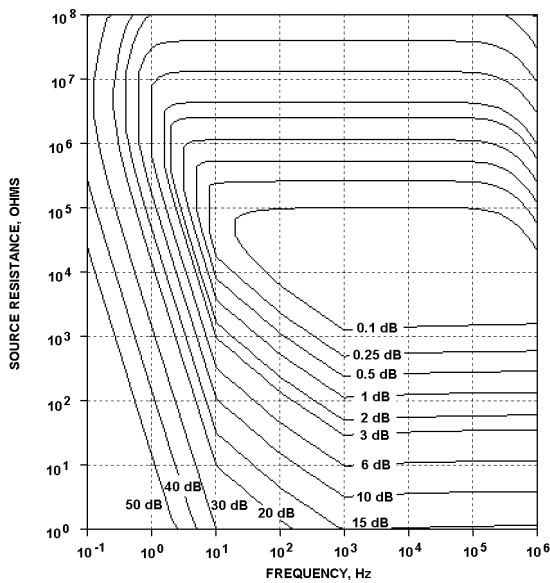

Figure 3, Typical Noise Figure Contours for **SIGNAL RECOVERY** Model 5184 Preamplifier
A typical set of such noise figure contours is shown in figure 3. As can be seen, this noise figure specification completely describes the noise performance of the amplifier for **every** source resistance and frequency combination over which it was designed to operate.
If a particular amplifier is already available, it may be possible to design the experiment so that the operating frequency appears at the lowest noise figure point on the plot. Assume, for example, that the **SIGNAL RECOVERY** model 5184 preamplifier were available, the detector had a source resistance of 10 T and there was a relatively wide latitude on operating frequency. From the model 5184 contours shown in figure 3, it is evident that best performance would be obtained in the frequency range from 1 kHz to 1 MHz. The user would then try to arrange the experiment to run at a frequency in this range and thereby obtain the lowest possible noise.
- 2) From the noise figure contour (figure 3) the noise figure at this combination of source resistance and frequency is approximately 3 dB